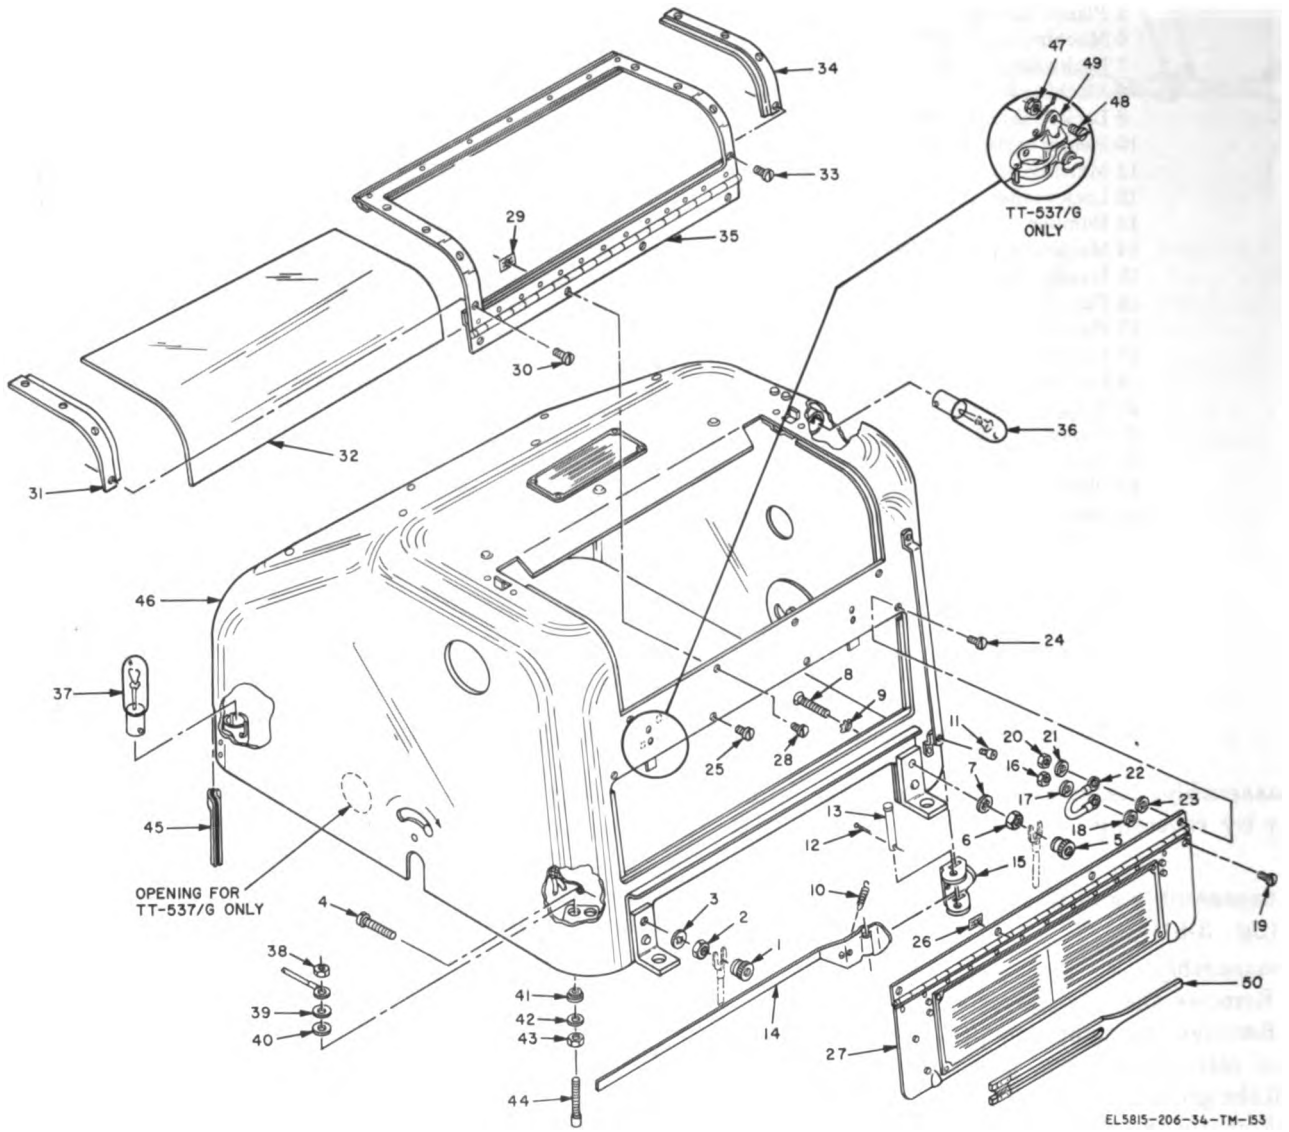

Figure 3-81. Dust cover, exploded view.
**3-111. Disassembly and Reassembly of Dust Cover (fig. 3-81)**
- (1) Remove the dust cover (para 3-22a).
- (2) Remove the thumb nut (1, fig. 3-81), plain hexagonal nut, lockwasher, and machine screw (4) that hold the ground loop of the copy light cable.
- (3) Remove the thumb nut (5), plain hexagonal nut, lockwasher, machine screw (8), and lockwasher from the dust cover.
- (4) Remove the holder slide spring (10) from the copy holder (14) and from the holder slide (15).
- (5) Remove the machine screw (11) and slide the assembled holder slide from the dust cover (46).
- (6) Remove the cotter pin (12) and pin (13) that hold the copy holder to the holder slide; remove the copy holder.
- (7) Remove the two plain hexagonal nuts (16 and 20), four lockwashers, and two machine screws (19 and 24) that hold the grounding bond (22) to the dust cover door and to the dust cover.
- (8) Remove the three machine screws (25) and
Refer to fig. 3-81:
- (1) Reassemble the dust cover as indicated in figure 3-81; the sequence for assembling the parts is the reverse of the disassembly sequence.
- (2) Adjust the copy light screws as described in paragraph 3-267.
- (3) Replace the dust cover (para 3-22b).